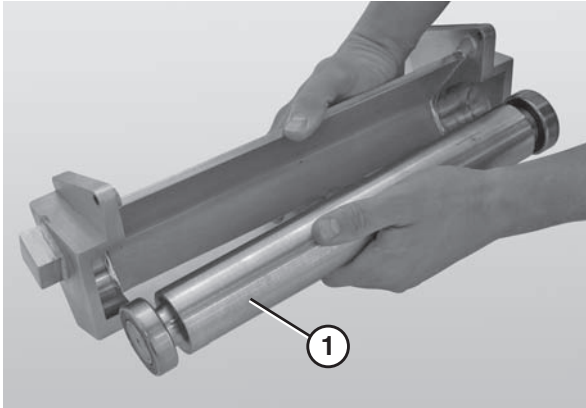

Figure 79
6. Remove the nose bar return spindle (**Figure 79, item 1**).